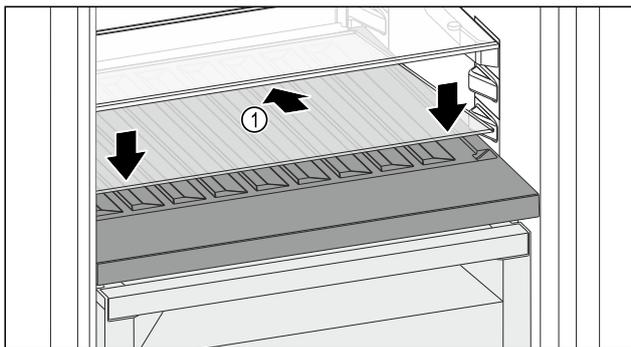

Fig. 122
- ▶ Place the glass shelf Fig. 122 (1) at an angle, sloping it downwards and backwards.
- ▶ Lower the glass shelf Fig. 122 (1) at the front.